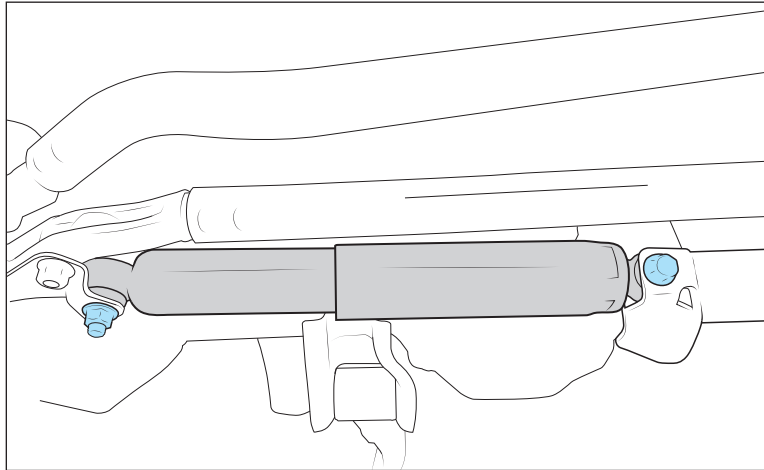

Figure 1
2. Remove the factory steering stabilizer by loosening and removing the bolt and flag nut at the axle end, then the nut and carriage bolt at the tie rod (fig. 1).